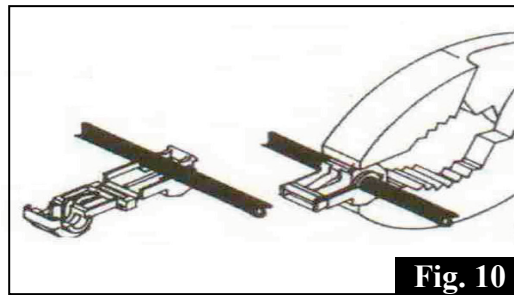

Fig. 10
20. Install one of the self stripping t-tap connectors on to each wire. Lay the wire in the open channel, fold the connector body over and squeeze with a pair of pliers until connector snaps shut. Fig. 10
23. Locate the 16 pin connector on the amplifier behind the left front speaker housing. Find the green/brown stripe wire and the gray/brown strip wire in this connector and install one of the self stripping t-tap connectors on to each wire. Lay the wire in the open channel, fold the connector body over and squeeze with a pair of pliers until connector snaps shut. Fig. 10